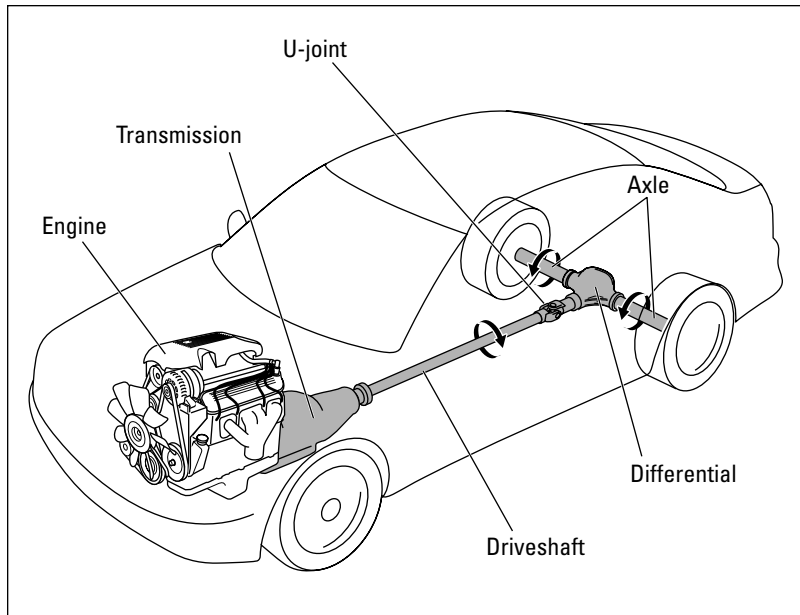

Figure 18-3: The differential on a rear-wheel drive vehicle makes the axle and the rear wheels move at right angles to the spinning driveshaft.
9. The **differential** is another box of gears that, in a rear-wheel drive vehicle (see Figure 18-3), takes the movement of the spinning driveshaft through a 90-degree angle to the axle that turns the **drive wheels**. It also allows each side of the axle to rotate at a different speed. This ability is necessary because, when you go around a sharp curve, the outside wheel travels farther than the inside wheel and has to move more quickly than the inside wheel, just like the ice skater at the end of a snap-the-whip line.